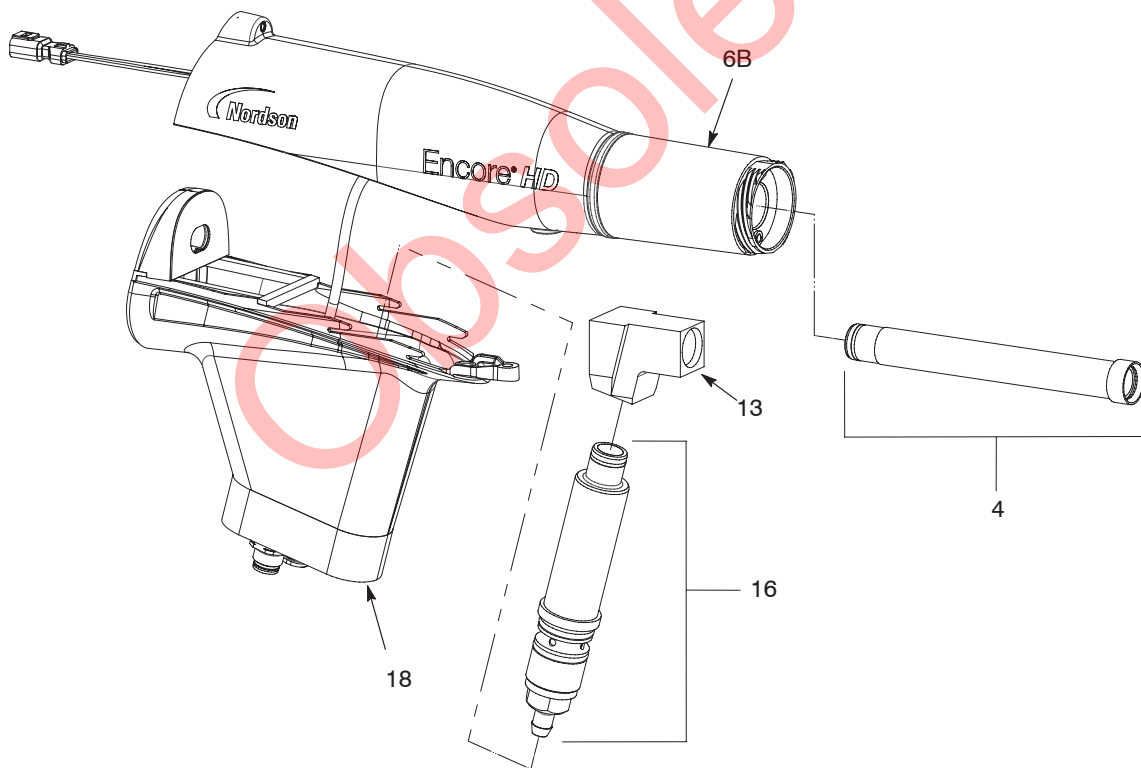

Figure 5-4 Powder Path Replacement
2. See Figure 5-4. Remove the elbow (13) from the inlet tube assembly (4).
3. Push the inlet tube assembly (16) up and out of the gun base (18).
4. Push the outlet tube assembly (4) out of the front of the gun body (6B).
1. See Figure 5-4. Install the outlet tube assembly (4) into the gun body (6B), with the end of the tube flush with the end of the gun body.
2. Install the inlet tube assembly (16) into the lower body (15), then install the end of the tube into the gun base (18).
3. Install the elbow (13) onto the inlet tube assembly, with the end oriented toward the front of the spray gun as shown.